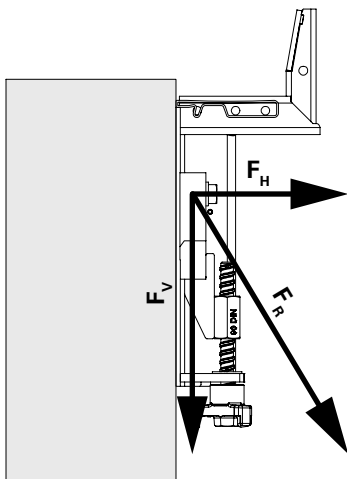

Fig. B1.02
- Please observe permissible anchor forces when selecting the fixing materials. (Tab. B1.02 + Fig. B1.02)